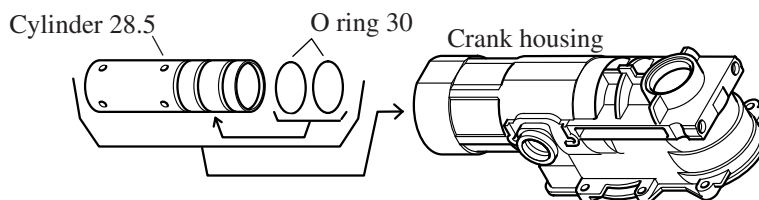

Fig. 17
1. Assemble 2 pcs. of O ring 30 on cylinder 28.5 and insert the cylinder 28.5 into the crank housing. (see Fig.17)